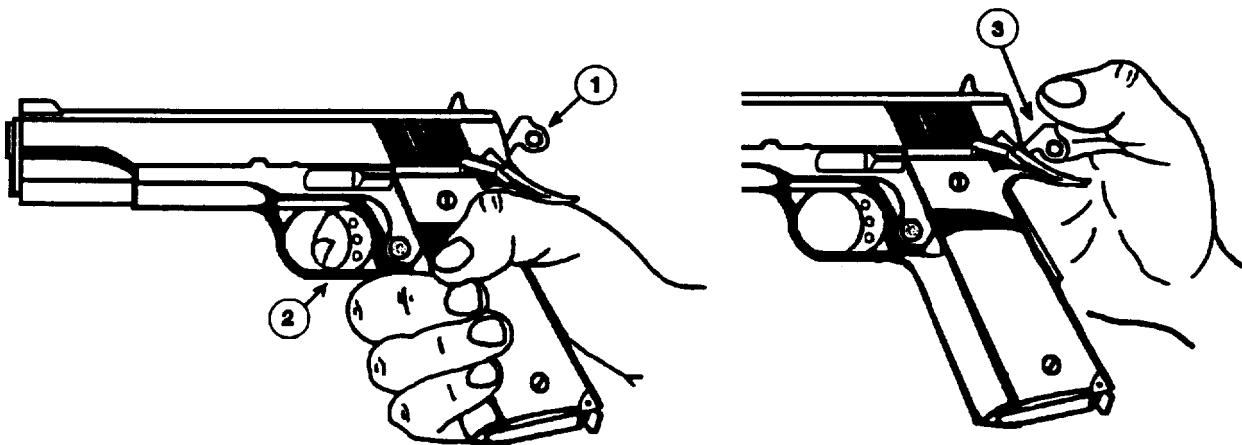

Figure 6-39. Half-Cock Position Test
d. Half-Cock Position Test. With the pistol unloaded, draw back the hammer until the sear engages the half-cock position notch (1), Figure 6-39, then squeeze the trigger (2). If the hammer falls, replace the sear and/or hammer. Draw the hammer back *nearly* to full cock position (3) and let thumb slip off the hammer. The hammer should fall only to the half-cock notch position. If the hammer falls, replace the sear and/or hammer.